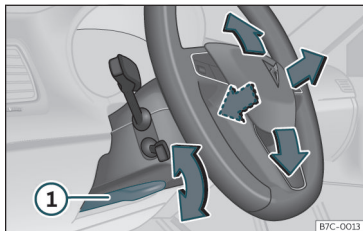

Fig. 19 Lever in the lower left side of the steering column.
• Adjusting the position of the steering wheel: pull the >>> **Fig. 19** ① lever down,